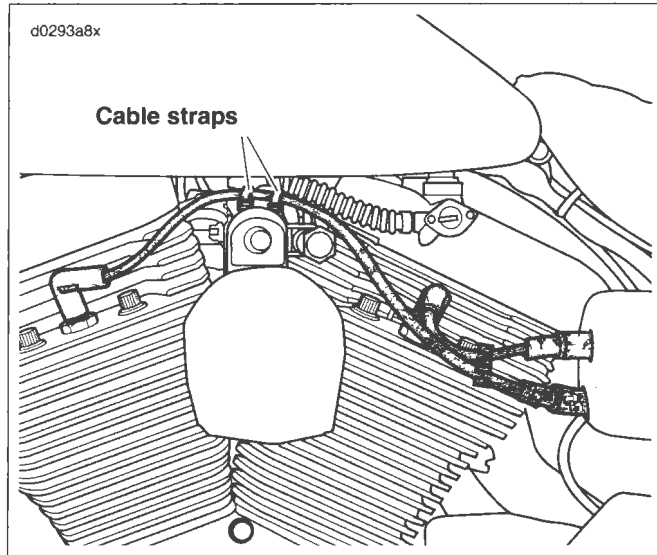

Figure 8-8. Spark Plug Cable Routing
2. See Figure 8-8. Remove cable straps on horn bracket for front spark plug cable.
1. See Figure 8-8. Connect spark plug cables to ignition coil and spark plugs. Rear cylinder plug cable attaches to top coil terminal. Fasten boots/caps securely. Tight connections provide the necessary moisture-proof environment for the ignition coil and spark plug terminals.